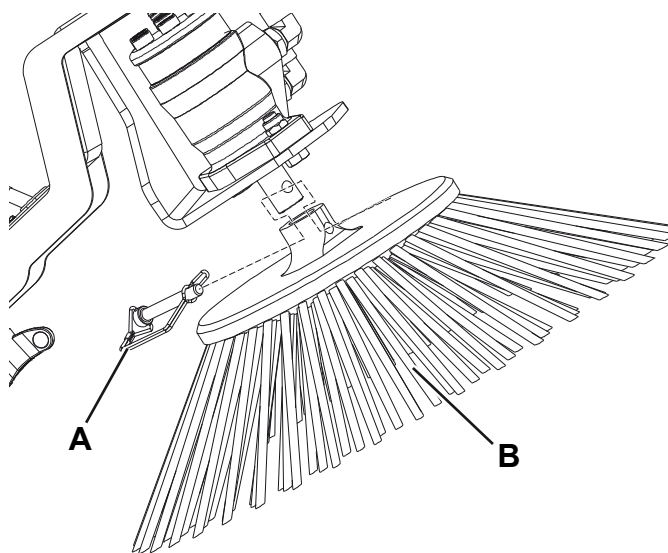

Figure 6
2. Release the spring to remove the mounting pin (A, Fig. 6) and remove the side broom (B) from the motor shaft.
3. Install the new broom on the motor shaft, align the hole with the mounting pin and engage the mounting pin (A).